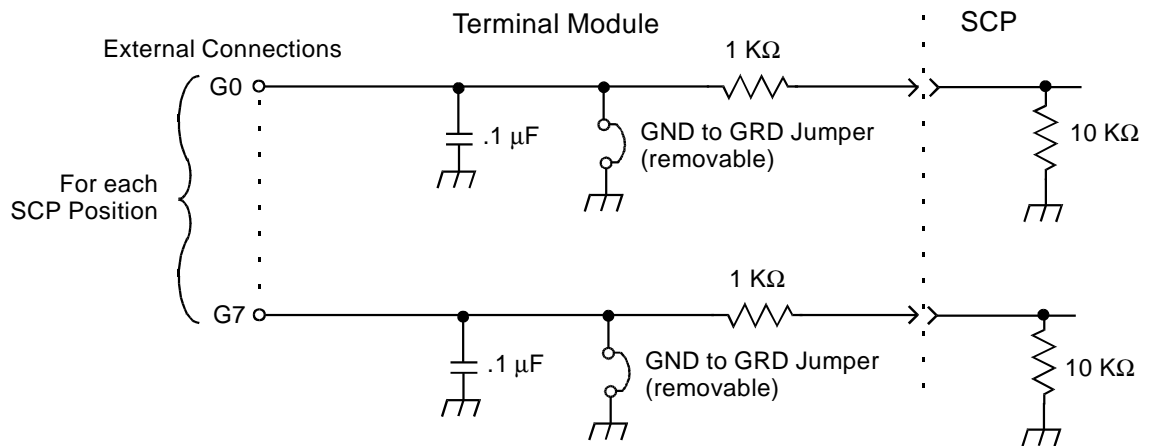

Figure 2-7. GRD/GND Circuitry on Terminal Module
3. Connect the shield of each wiring pair to the corresponding Guard (G) terminal on the Terminal Module (see Figure 2-7 for schematic of Guard to Ground circuitry on the Terminal Module).